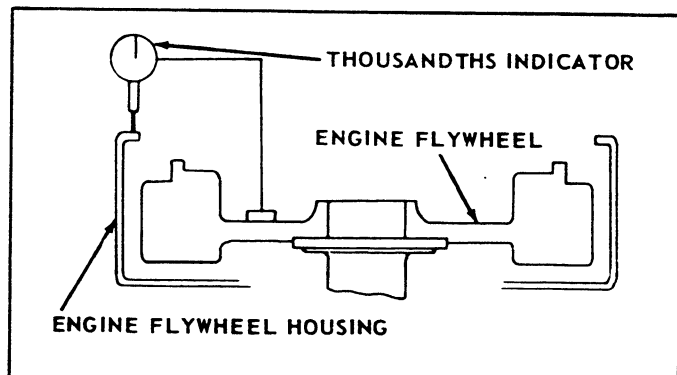

Figure 65. Checking the Face of the Engine Flywheel Housing.
D. Checking Face of Engine Flywheel Housing. Bolt a thousandths indicator or gauge to the engine flywheel so that the indicator is perpendicular to the face of the engine flywheel housing, and the indicator stem is riding on the face of the flange (fig. 65). Rotate the engine flywheel and note the face deviation of the engine flywheel housing flange. The face deviation must not exceed .008 inch maximum total indicator reading.